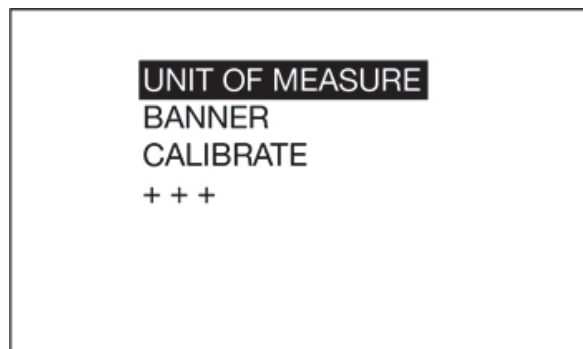

FIG. 22
6. After selecting ENTER the following screen (FIG. 22) displays.